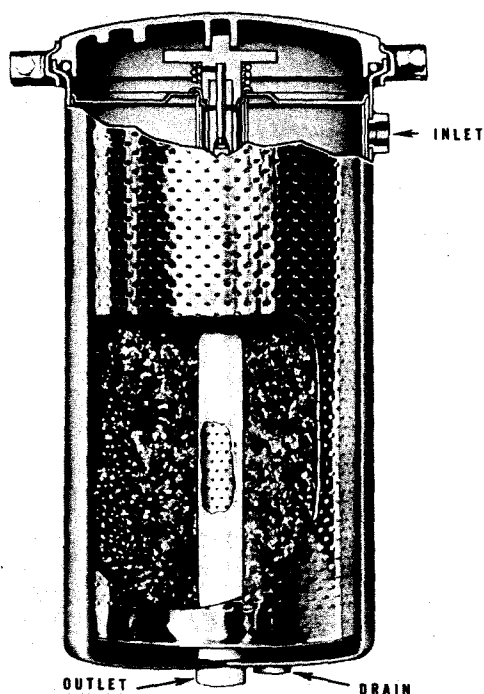

Fig. 5-10. By-pass filter cross-section
3. Unscrew pack hold-down assembly; lift out element and hold-down assembly (Fig. 5-10). Discard element.